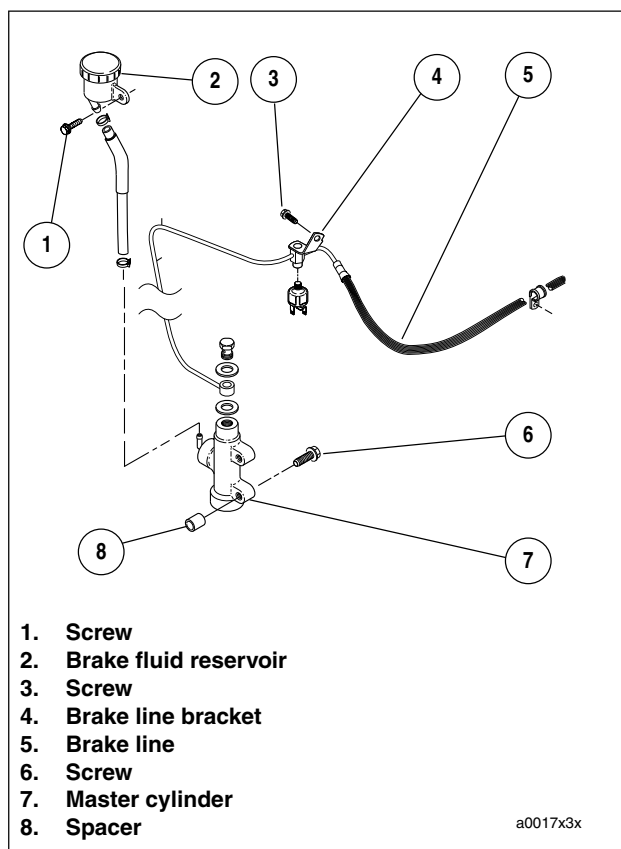

Figure 3-9. Rear Master Cylinder and Brake Line Assembly
See Figure 3-9. Remove rear master cylinder before removing sprocket cover.
23. See Figure 3-9. Disconnect screws (1, 3, 6) at brake fluid reservoir, master cylinder and brake line bracket.